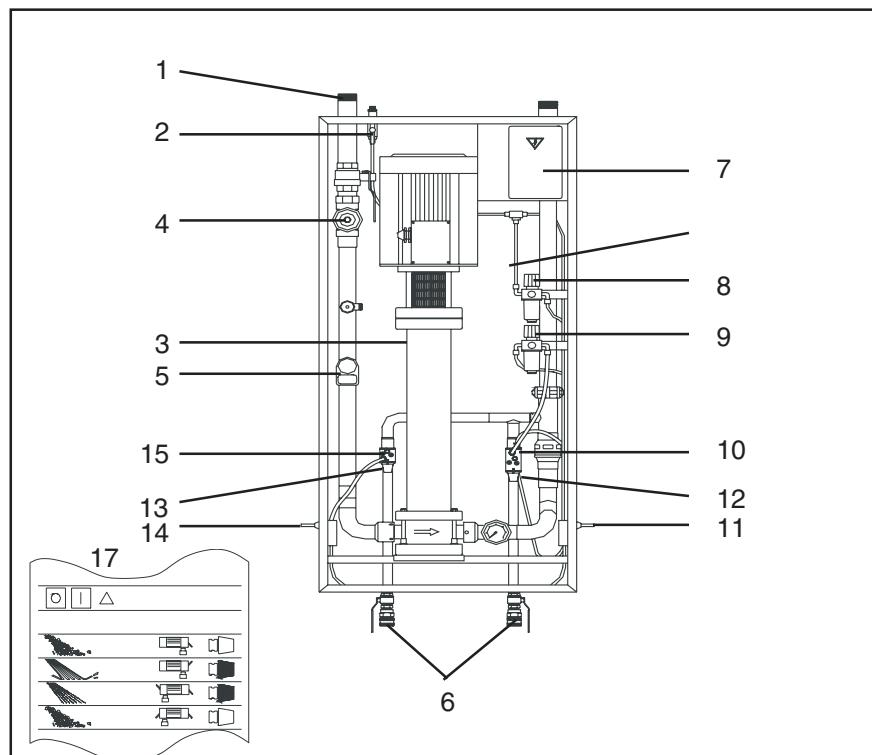

Fig. 6
**S4000 DF, S4000 DFU, S4100 DF, S4100 (fig. 6, sin User Pack\*).**